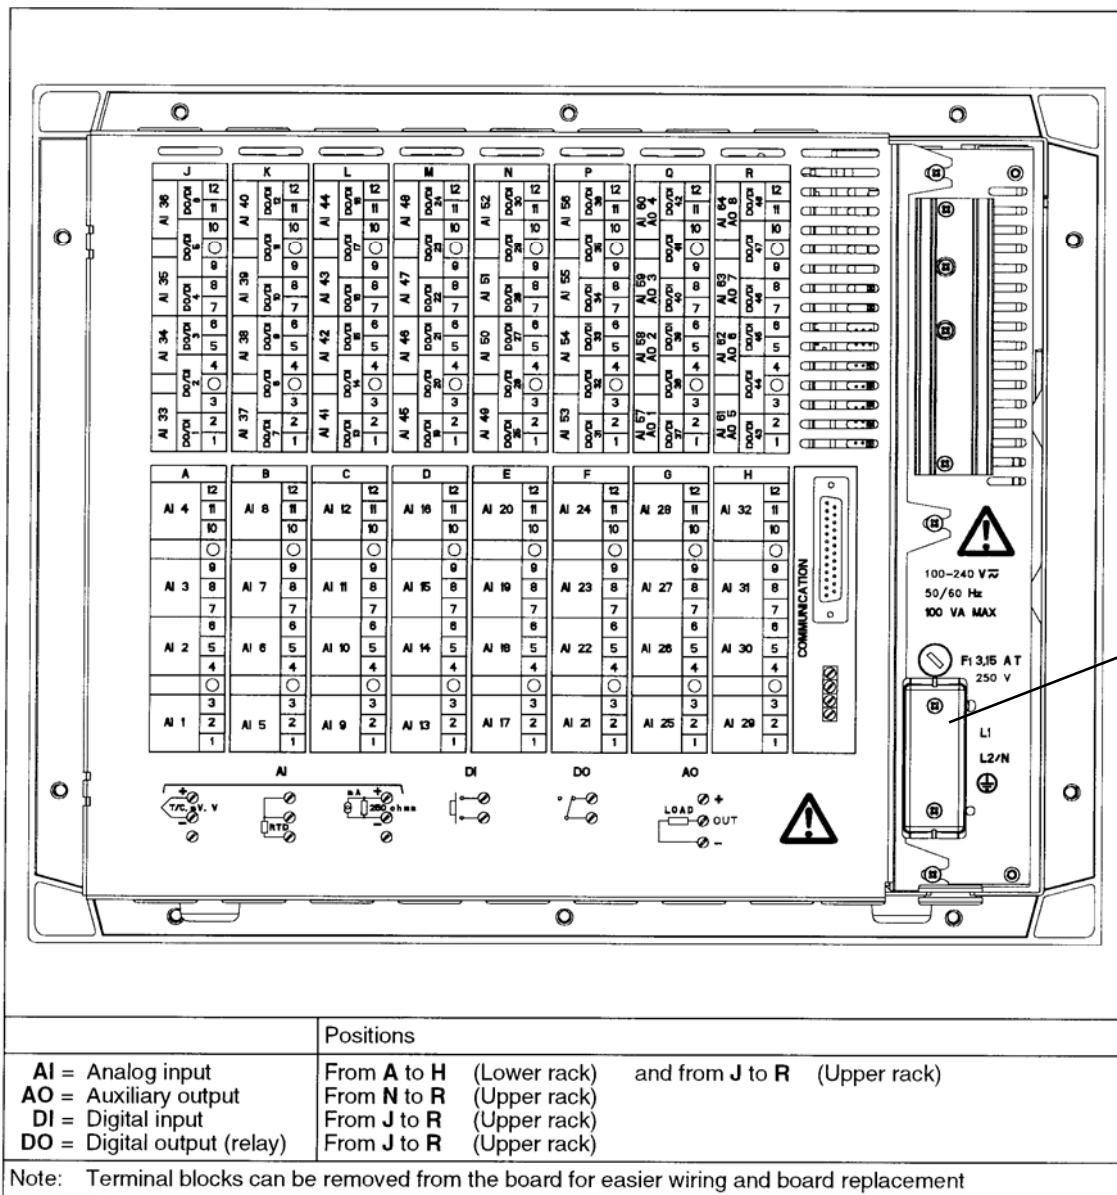

Figure 2-15
4. Remove the cover from the power supply terminal block. (See ref. E, Figure 2-15)
43. Replace the power supply terminal block cover. (See ref. E, Figure 2-15)